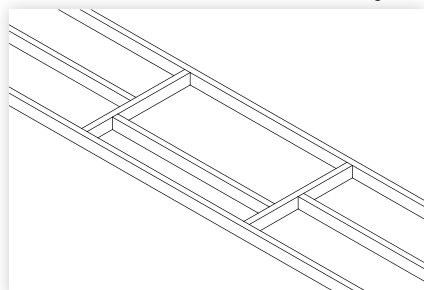

figure 3
2. Using timber of a compatible size to the existing ceiling framing (ie 90 x 45 or 140 x 45 H1.2 treated, machine gauged radiata pine), frame up the opening. It may be necessary to cut through some existing ceiling joists to achieve the required size. Ensure these are properly supported during and after cutting. Three possible arrangements are shown in figures 3,4 & 5.